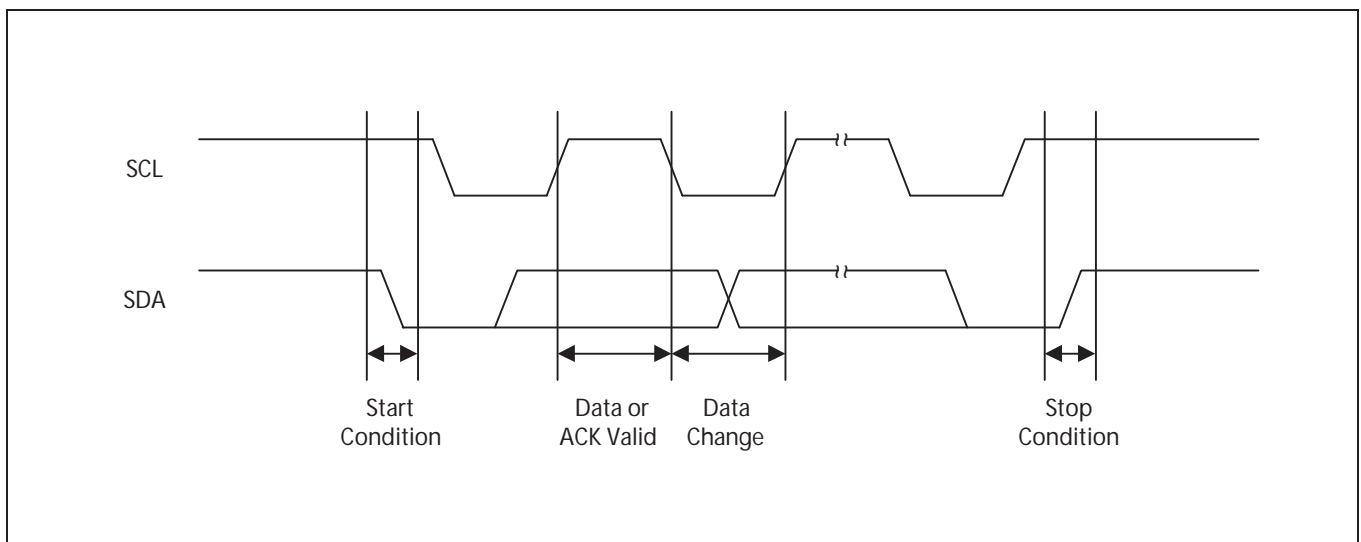

Figure 1-7. Data Transmission Sequence
- Stop condition : A stop condition is initiated by a Low-to-High transition of the SDA line while SCL remains High level. All bus operations must be completed by a stop condition (see Figure 1-7).